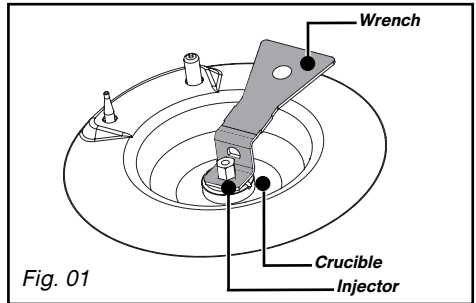
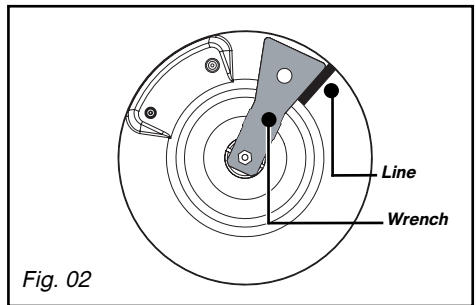

Fig. 01
Fig. 02
– If you wish, you can immobilise the hob using the four mounting brackets delivered with their screws (Fig. 02) to attach them to the four corners of the housing. **You must use the holes provided for this purpose, according to the diagram above (Fig. 01).**
– Above an oven (Fig. 01)
To this end, we suggest a cut-out of 30 cm² at the back of one of the recess' sides (Fig. 01).
– Connect the wires to the electricity supply making sure that the different-coloured wires are in the right order (*Fig. 01*).
– **Connection with a wavy metal hose** (stainless steel) **with screw-on mechanical connectors** (compliant with the NF D 36-125 standard) whose service life is unlimited (Fig. 01).
– **Connection with a reinforced rubber hose with screw-on mechanical connectors** (compliant with the NF D 36-112 standard) whose service life is 10 years (Fig. 02).
- Using the wrench provided, unscrew the injectors located under each crucible and remove them (*Fig. 01*).
- Draw a line on the burner plate using a pencil at the place indicated (*Fig. 02*).
- Adjust the ring of flames so that they do not extend beyond the edges of the cookware (Fig. 01).
- Do not use cookware with a concave or convex bottom (Fig. 02).